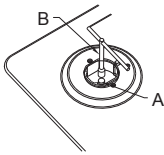

Fig. 6
- Replace the injectors with the corresponding injector from the table on page below (see Fig. 6). First, remove the burner caps and rings and with a socket spanner "B", unscrew Injector "A" (see Fig. 6).